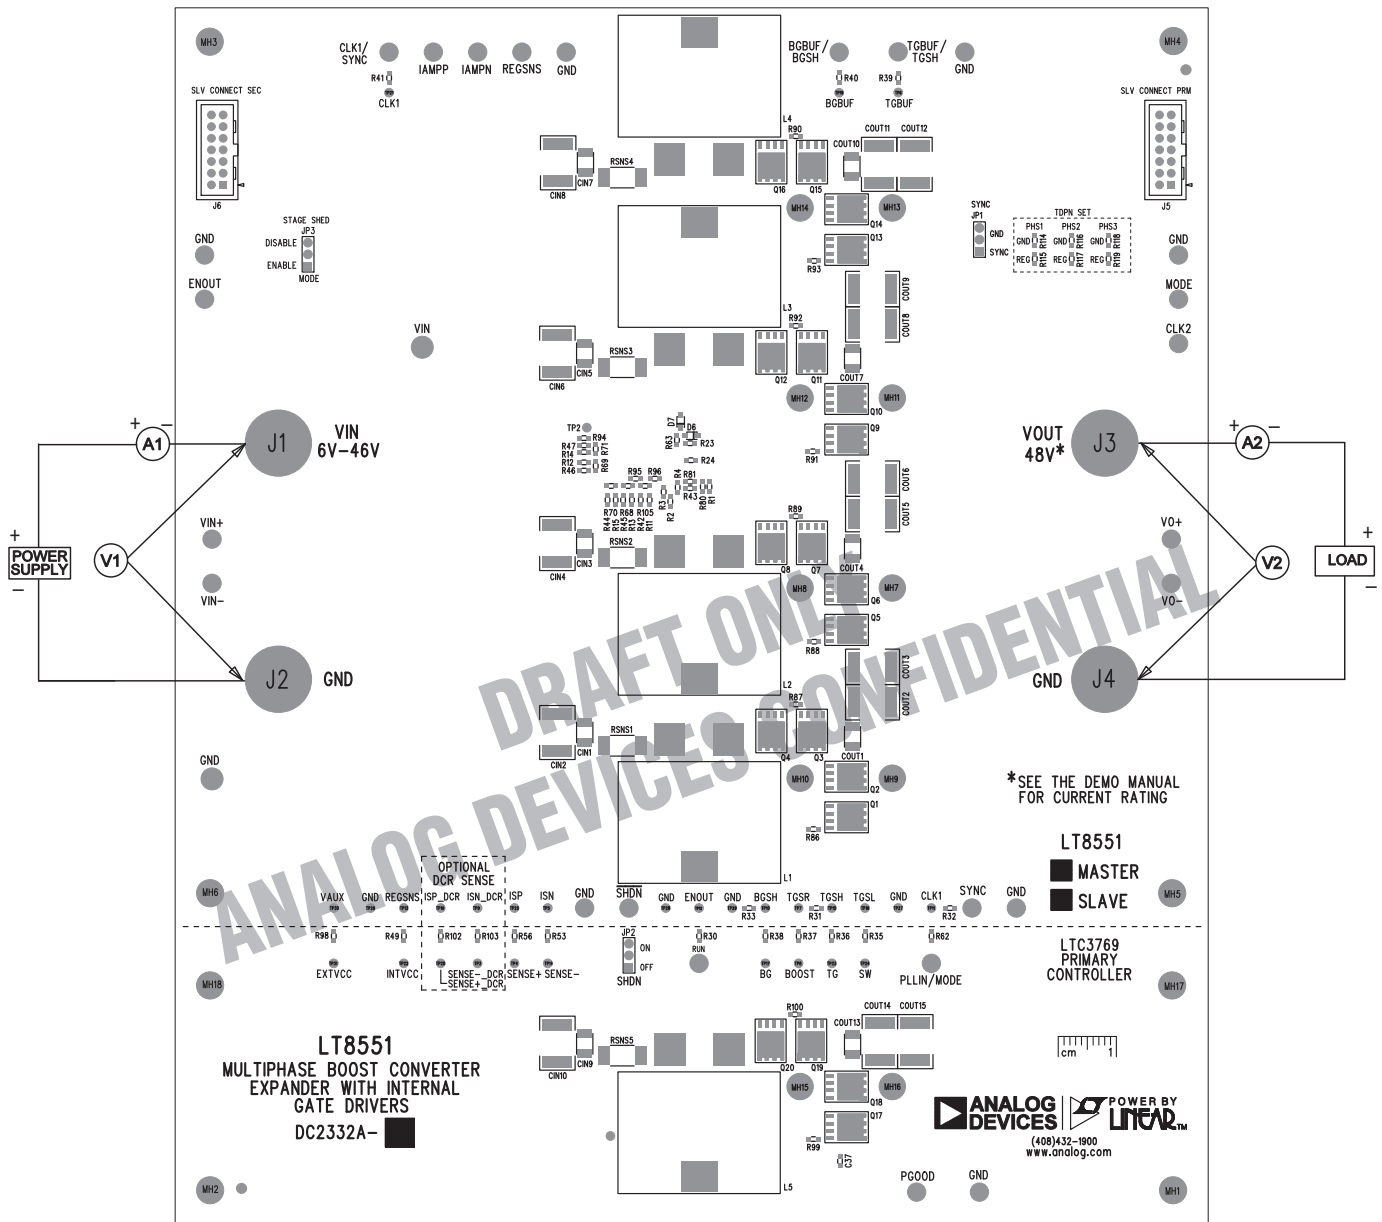

Figure 1. Proper Equipment Setup for DC2332A-A
6. Connect the input power supply with power off, load and meters as shown on Figure 1.